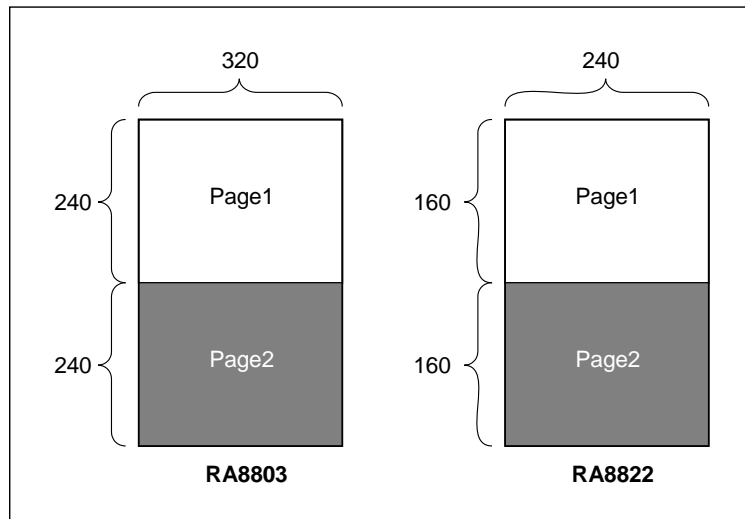
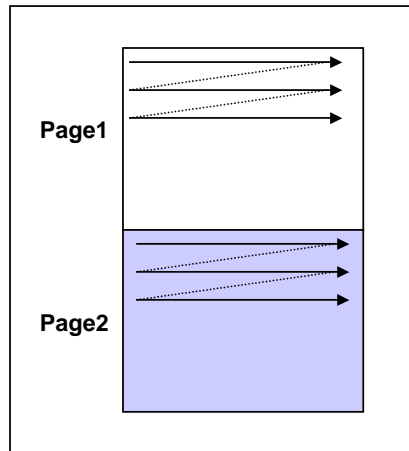
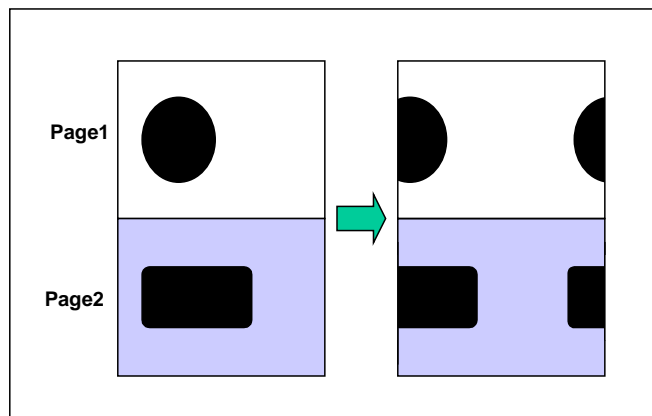

Figure 9-31 : Extension Mode(2) Register MAMR bit[6:4] = 111h
Figure 9-34 : Extension Mode(2) Cursor Moving
Figure 9-35 : Extension Mode(2) Horizontal Scrolling
When MAMR Bit[6:4]=111b, then RA8803 support 320x480 dots panel and RA8822 support 240x320 dots. The Page1 and Page are show as Figure 9-31.
But if RA8803 use Extension mode(2) like Figure 9-31 for 320x480 dots panel, then the cursor moving is same as normal mode – the Common is from 0 to 319. The page arrangement is as Figure 9-34. The effect of Horizontal Scrolling is show as Figure 9-35.